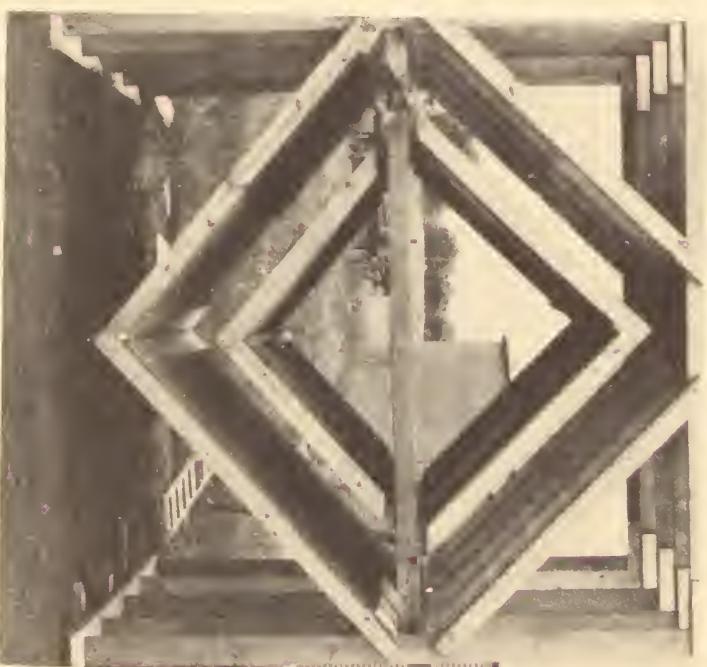

FIGURE 3.—"A" sections in place for drying and cooling chambers.
10. Install upper "A" frame and fasten at each corner (see fig. 3).